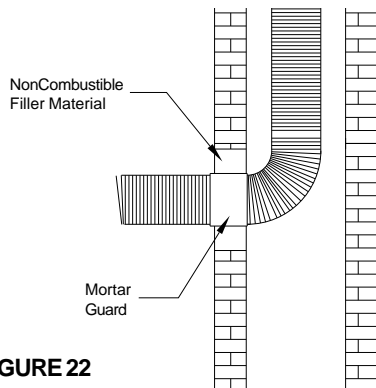

FIGURE 22
Trim the Flexible Liner flush with the Mortar Guard. Insert the end of the single wall vent connector (not supplied) into the Flexible Liner. Secure into place with four (4) evenly spaced screws through the Mortar Guard and into the Flexible Liner and the vent connector (see FIGURE 22).
When used as a single wall vent connector and if it is acceptable, the Flexible Liner system may be extended all the way to the appliances and installed with 1" (25mm) airspace clearance to combustibles. Remember to include a minimum of 1/4" per foot rise in any horizontal sections (from the appliance to the chimney) and keep turns to a minimum (see FIGURE 22).